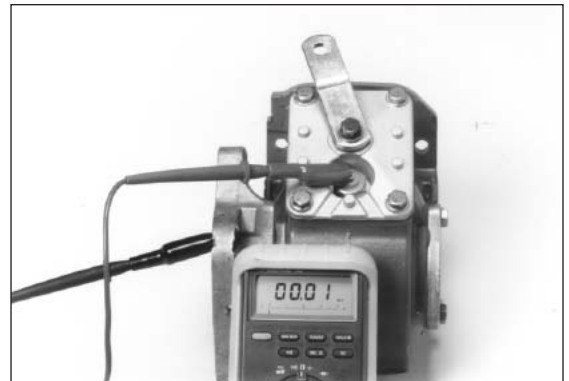

Fig. 16
3. Actuate shifting device and the meter or light* should be actuated when PTO gear is engaged (**Fig. 16**).